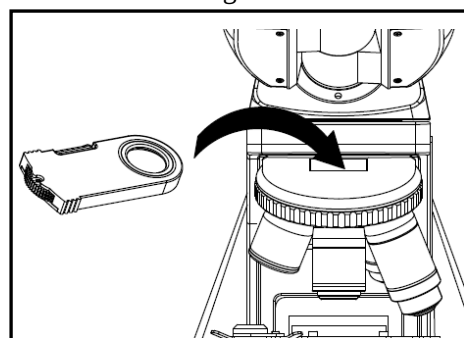

Fig.41
2. Open the stopple on the nosepiece and insert the analyzer, as shown in figure 41.
- ① When the polarizer and the analyzer enter the optical path, the specimens can be detected by turning the analyzer to the darkest field of view (completely extinct state).